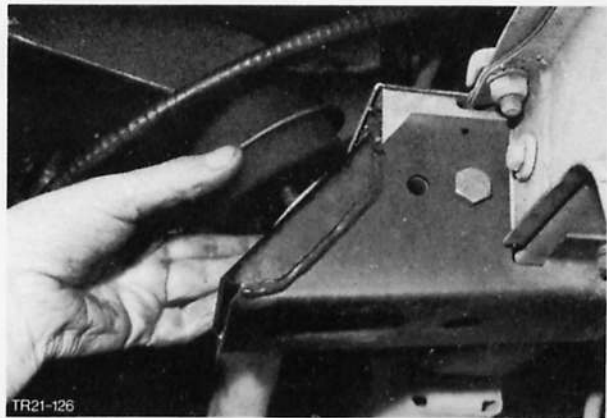

Fig. 176. Fit rubber insulator
3. Fit rubber insulator with plate and washer, Fig. 176 and lower engine.